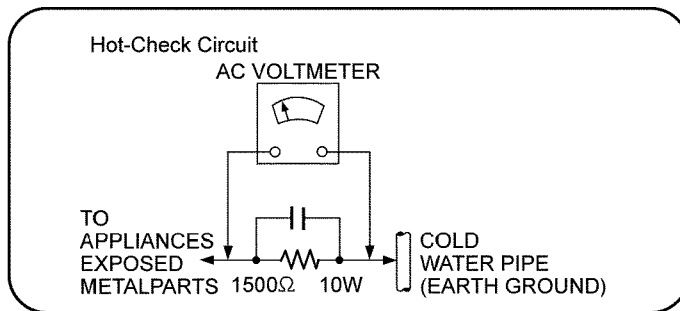

Figure. 1
2. Connect a  $1.5k\Omega$ , 10 watts resistor, in parallel with a  $0.15\mu F$  capacitors, between each exposed metallic part on the set and a good earth ground such as a water pipe, as shown in Figure 1.